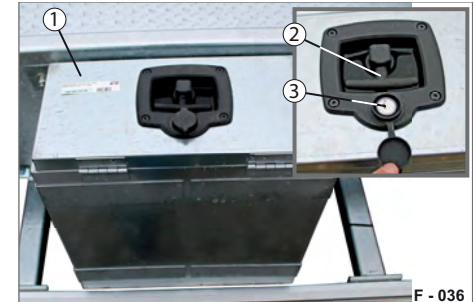

Fig. 62 Toolbox closed
- ▶ Remove the cover (Fig. 62/3) from the lock cylinder and close the lid (Fig. 62/1) with a key.